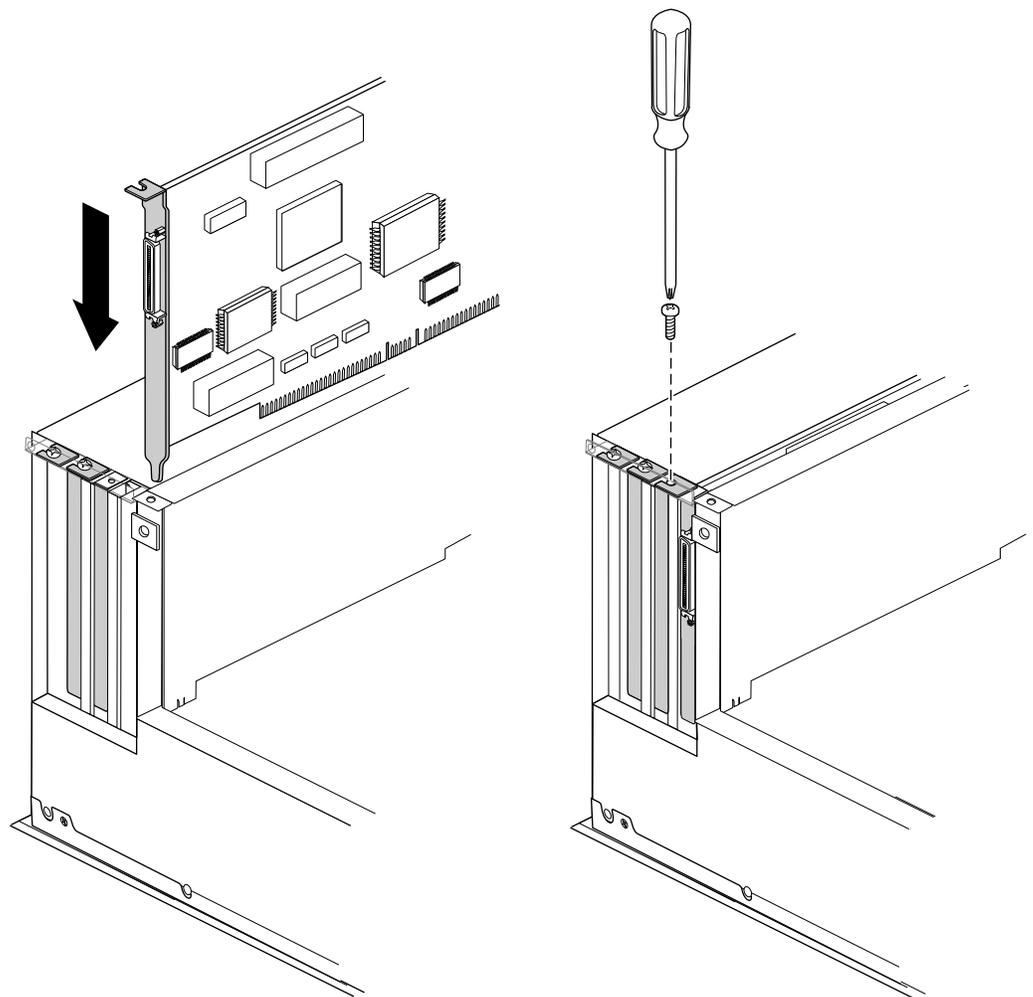

Figure 2-6 Securing the PCI Option Board to the Chassis
- Align the connector on the base of the PCI board with the PCI slot, as shown in Figure 2-6.
- Attach the screw that secures the PCI option board to the chassis, as shown in Figure 2-6.